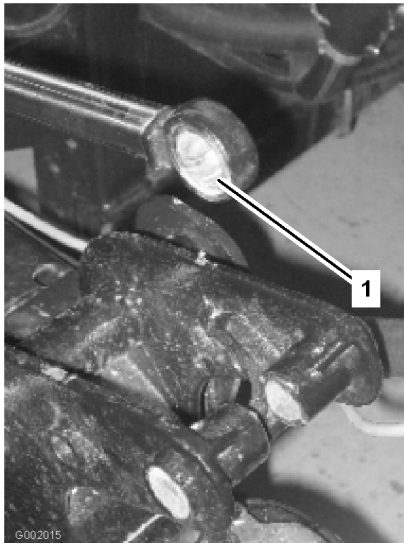

Figure 19
5. Manipulate the actuator rod bearing end and apply grease into the bearing (Figure 19). Wipe off excess grease.